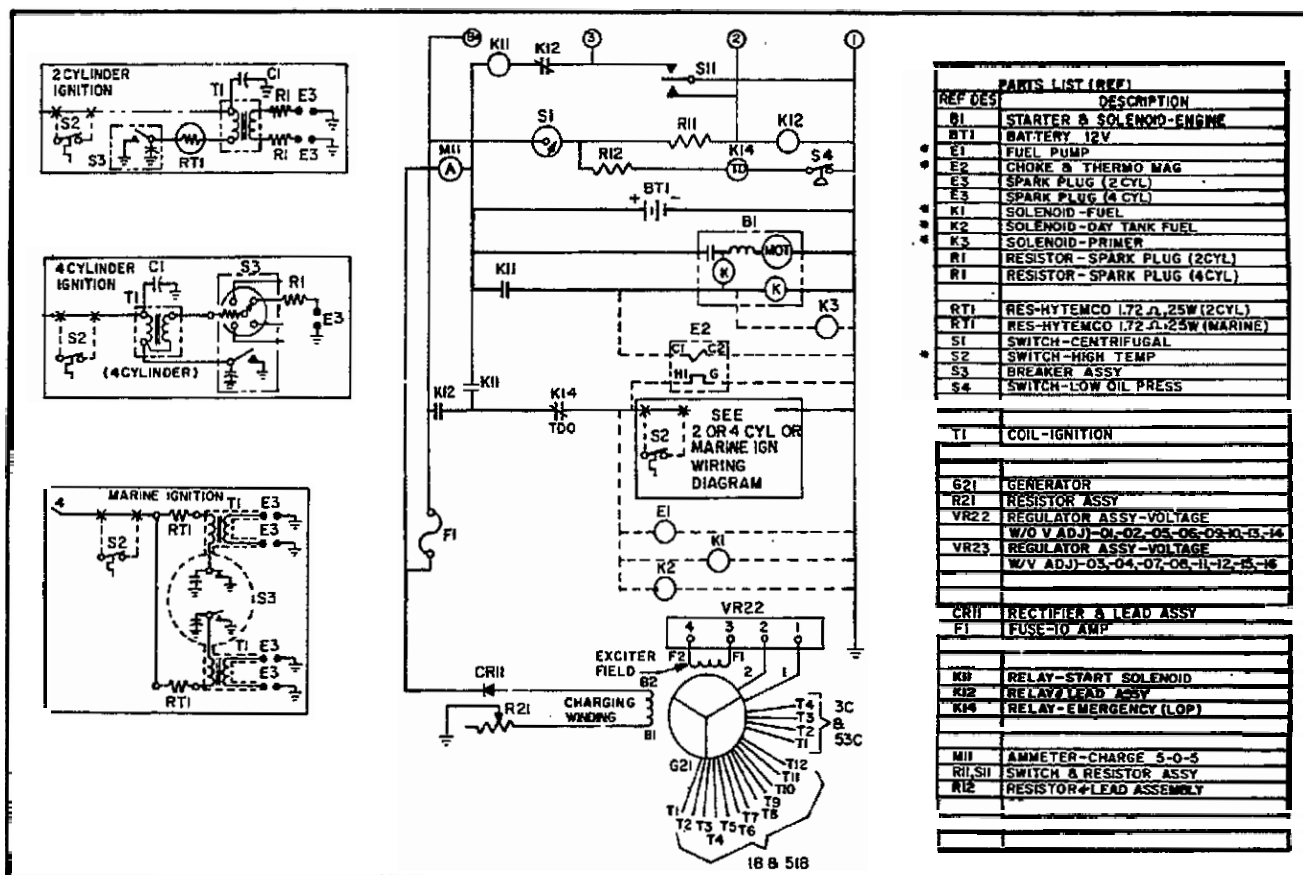

FIGURE 73. TYPICAL GASOLINE ENGINE CONTROL SCHEMATIC
Figure 73 shows a typical wiring diagram for gasoline powered sets described in the following Starting, Start-Disconnect and Stopping sequences. Relay contact references normally open (NO) and normally closed (NC) refer to position of contacts with the unit at rest (not energized).